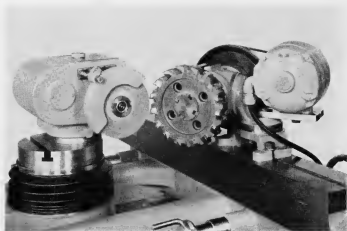

Figure 90A
1. Sintered carbide tipped milling cutters are generally sharpened by first using silicon-carbide grinding wheels for the roughing operations—cylindrical grinding, removing the excess carbide behind the cutting edge; cutter body interference. Diamond grinding wheels are generally used for finishing operations on the cutting edge. On roughing operations care should be exercised when using silicon-carbide grinding wheels. Excessive grinding pressure will glaze the grinding wheel, resulting in high temperatures in the cutter body, causing heat cracks in the carbide teeth. When circle grinding (Figure 90A) excessive pressure may be built up by too fast a feed rate resulting in a bumping action from tooth to tooth causing the carbide to flake or chip on the cutting edges. High temperatures resulting from excessive grinding pressures, when using diamond grinding wheels, will cause the diamonds to be loosened from the bonding material, reducing the grinding wheel life.